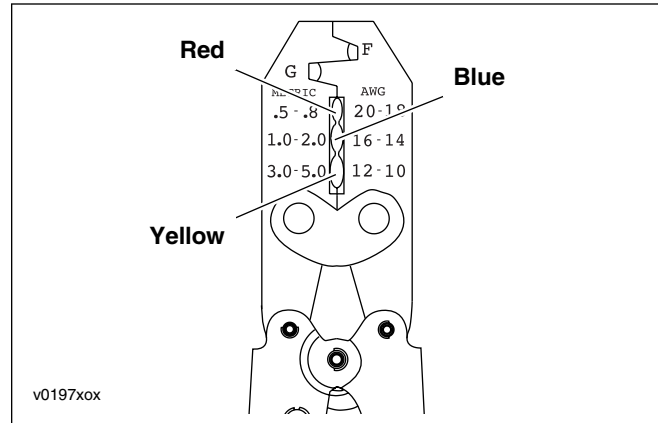

Figure 5-18. Packard Crimp Tool (Part No. HD-38125-8)
- See Figure 5-18. Determine the correct dye or nest for the crimping operation. Match the color or gauge wire marked on the butt splice connector with the corresponding crimp cavity on the crimp tool.